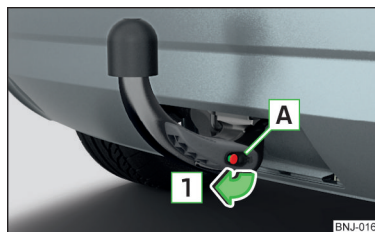

Fig. 250
- ▶ Remove the cover **A** from the lock in the direction of the arrow **1** » Fig. 250.